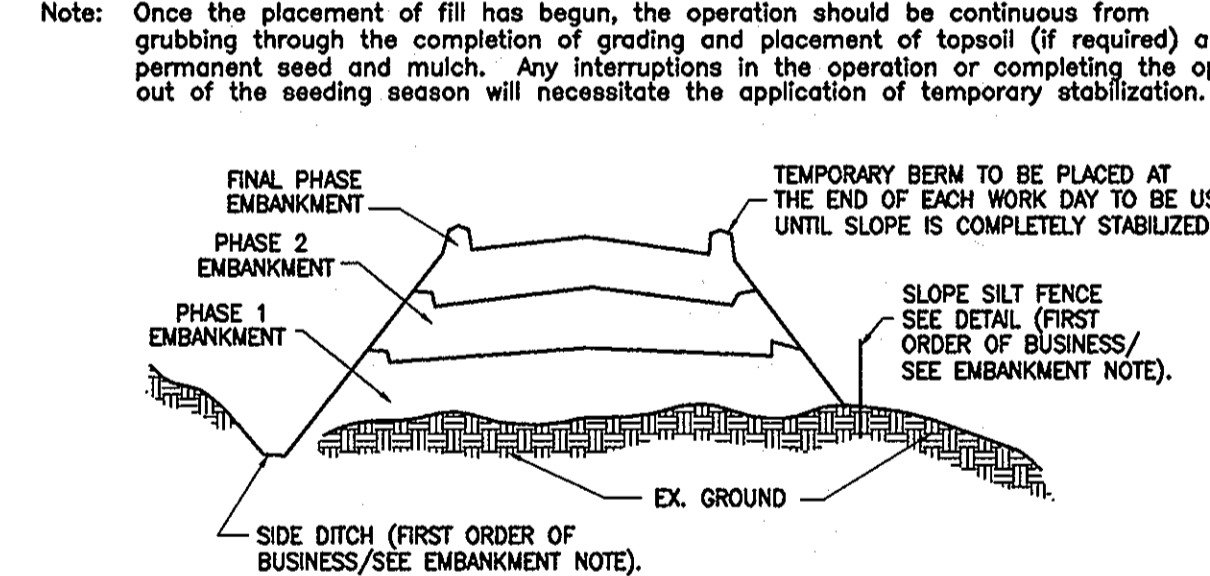

Figure 5 Incremental Stabilization - Embankment Fill Comply with MD 378 Specifications.
4. Construction sequence: Refer to Figure 5 (below)
1. Select one or more of the species or mixtures listed in Table 26 for the appropriate Plant Hardiness Zone (from Figure 5) and enter them in the Temporary Seeding Summary below, along with application rates, seeding dates and seeding depths. If this Summary is not put on the plans and completed, then Table 26 must be put on the plans.
1. Select one or more of the species or mixtures listed in Table 25 for the appropriate Plant Hardiness Zone (from Figure 5) and enter them in the Permanent Seed Summary below, along with application rates and seeding dates. Seeding depths can be estimated using Table 26. If this Summary is not put on the construction plans and completed, then Table 25 must be put on the plans. Additional planting specifications for exceptional sites such as shorelines, streambanks, or dunes or for special purposes such as wildlife or aesthetic treatment may be found in USDA-SCS Technical Field Office Guide, Section 342 - Critical Area Planting. For special lawn maintenance areas, see Section IV Sod and Turfgrass.